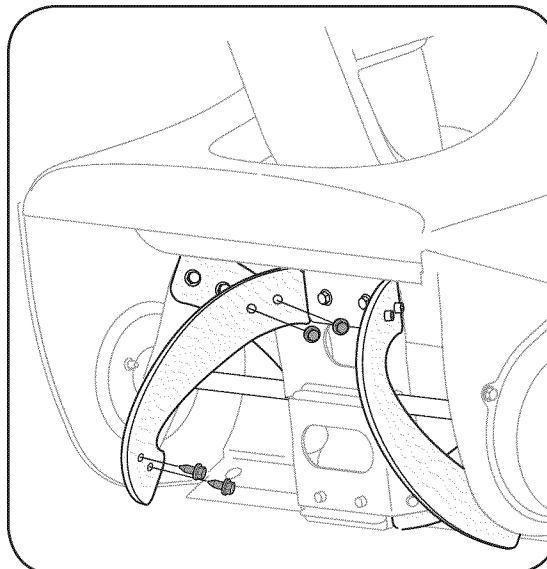

Figure 6-5
1. Remove the existing rubber paddles by unscrewing the self-tapping screws which secure them to the auger. See Figure 6-5.